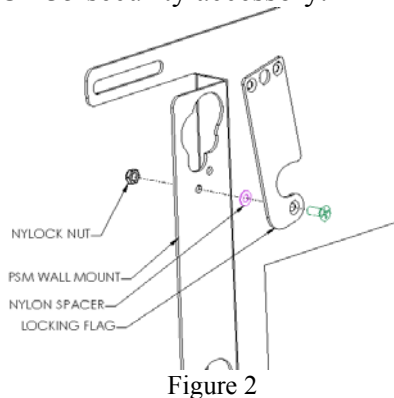

Figure 2
1. Secure latching flag to mount using the 10-24 undercut screw, Nylon washer, and Nylock nut (see Figure 2). Tighten until friction will hold the flag in place. Use hole on other side of bracket with PAC-130 or PAC-135 security accessory.